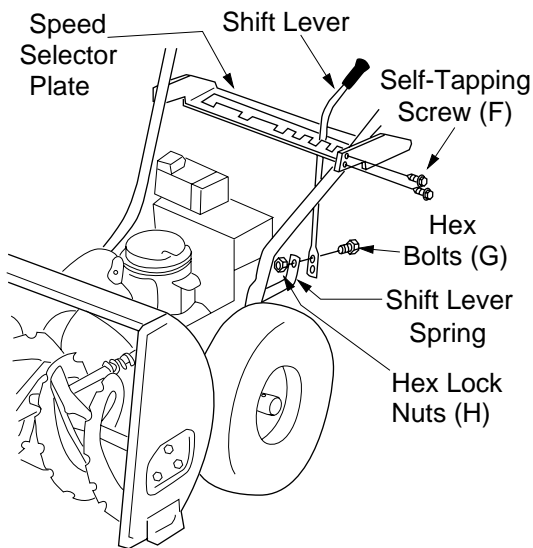

Figure 9
1. Assemble the speed selector plate to the outside of the handles as shown in Figure 9. The speed selector plate should not be assembled between the handles and the engine. Secure using four self-tapping screws (F).
**NOTE:** The bend in the lever should be towards the operator. Secure shift lever to the shift lever spring using two hex bolts (G) and hex lock nuts (H). Tighten both bolts finger tight. At this point the shift lever and shift lever spring are not against each other. As you tighten the bolts and nuts with two 7/16" wrenches they will pull together. See Figure 9.